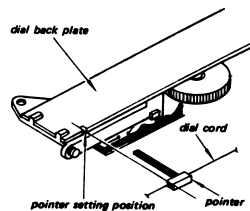

Fig. 2-8 Pointer setting position
4. After stringing, set the dial pointer at pointer setting position shown in Fig. 2-8.